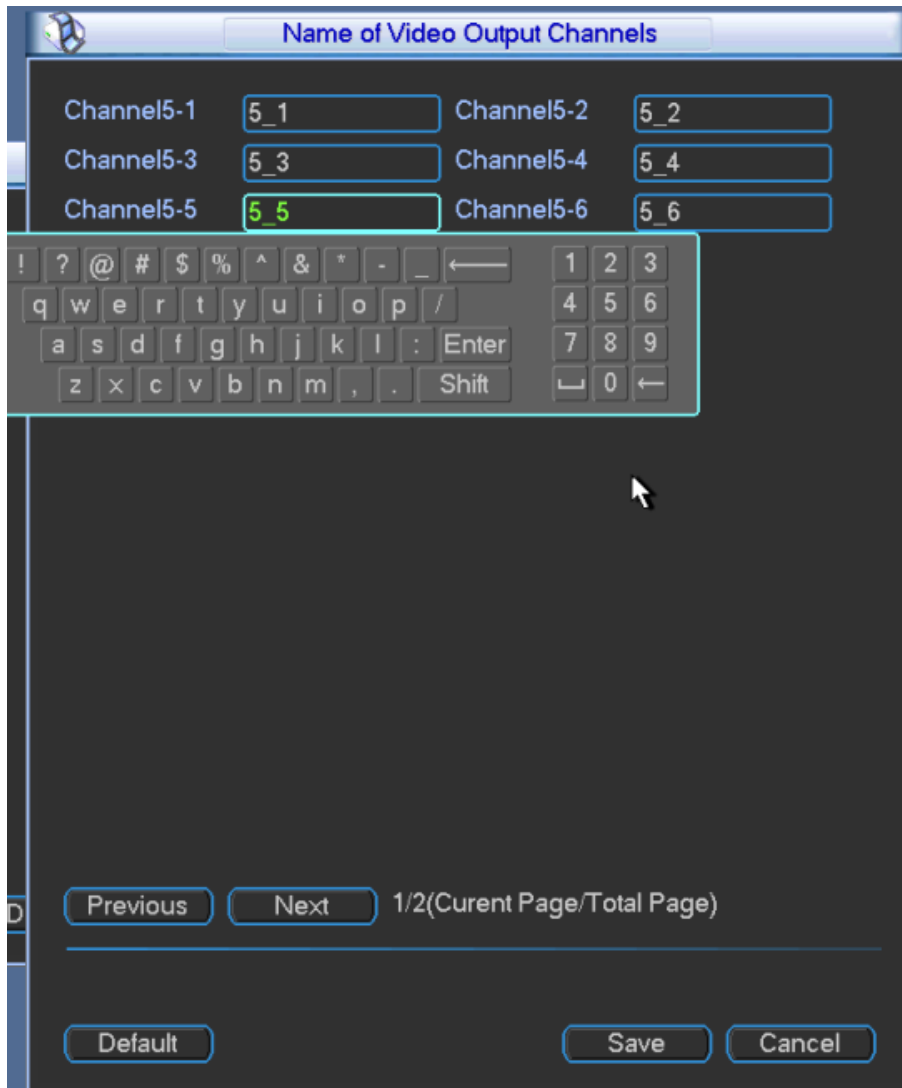

Figure 3-63
Step 1 Click "Modify" in the right of "Channel Name". The system displays "Name of Video Output Channels" interface, as shown in Figure 3-63.